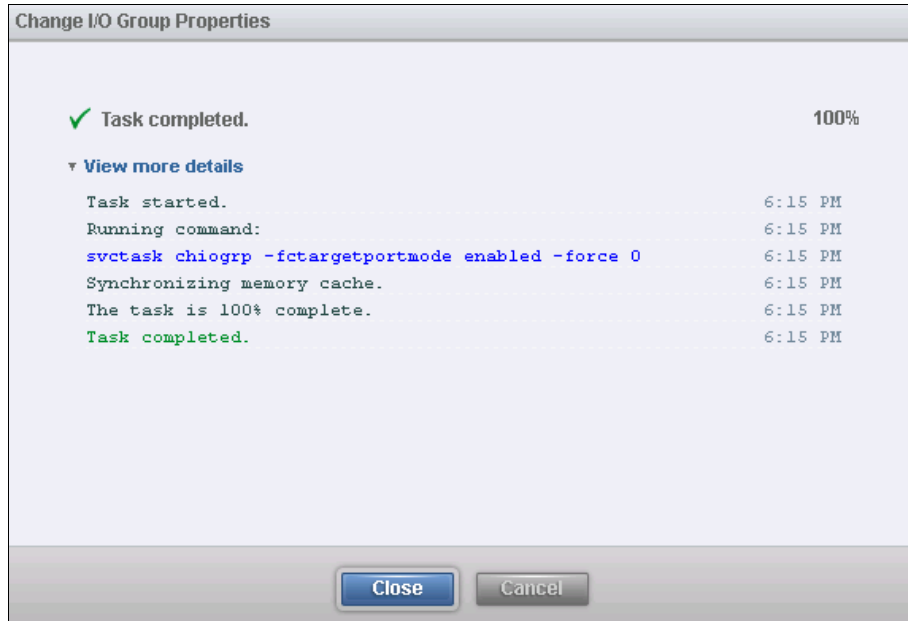

Figure 7-30 CLI executes: NPIV is now enabled
2. Click **Close** to finish the configuration change (Figure 7-30).